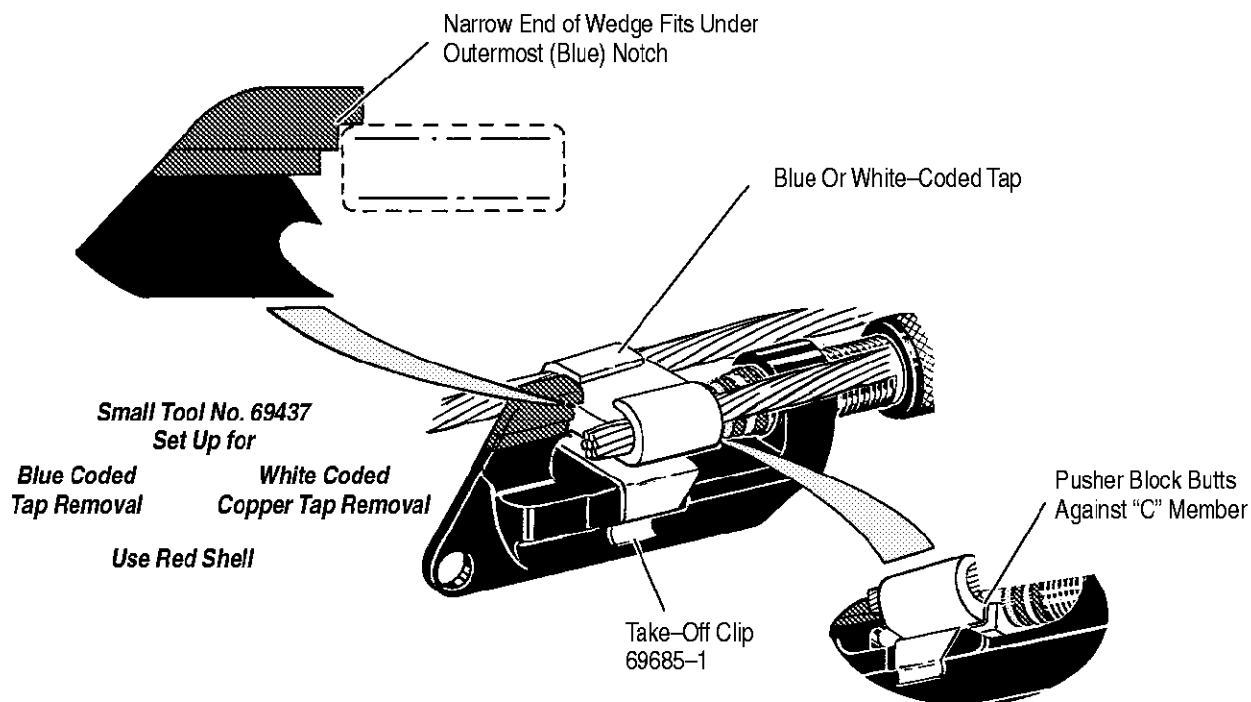

Figure 32
-  Use take-off clip No. 69685-1 and red shell for removal of blue coded taps and white coded copper taps. Narrow end of wedge fits under outermost blue notch of tool and pusher block butts against "C" member as shown in Figure 32.